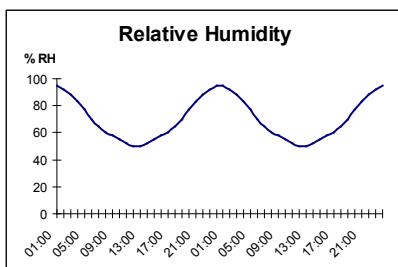

Figure 1. Typical variations in relative humidity over a 24 hour period.
Absolute humidity is a measure of how much water (grams) is contained in the air (per cubic metre). Unfortunately the less useful **relative humidity (RH)** is usually calculated and quoted. Relative humidity is the percentage of water vapour in air to its saturation value. Atmospheric relative humidity varies considerably over a 24 hour period as the temperature changes (Figure 1). Our subjective sense of 'humidity' is a poor indicator of the true relative humidity. This is because RH does not say anything about the amount of water in the air, unless the temperature is given (see Table 1 on the next page).